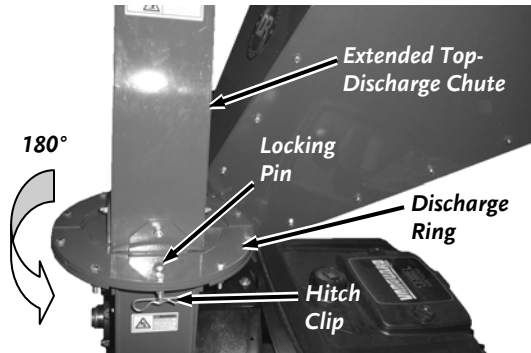

Figure 47
1. Pull the Hitch Clip and remove the Locking Pin (**Figure 47**).
1. Pull the Hitch Clip and remove the Locking Pin from the Discharge Ring (**Figure 47**).